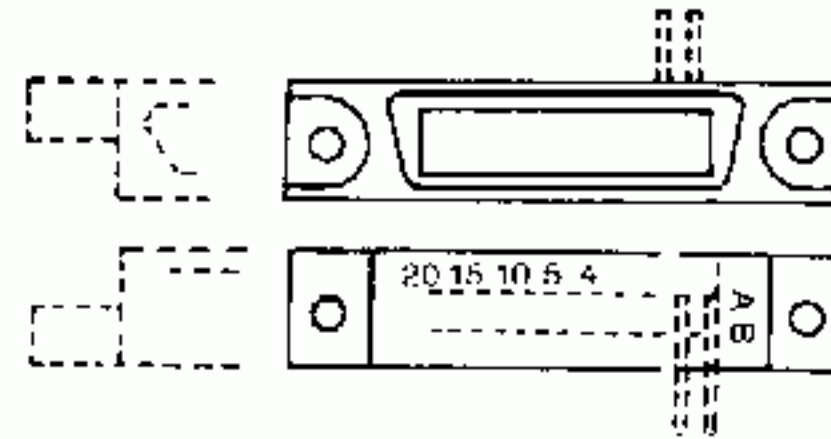

Fig. 7.12 Indication of Terminal Numbers
- The terminal numbers are indicated on the wiring side of the connector as shown in Fig. 7.12.